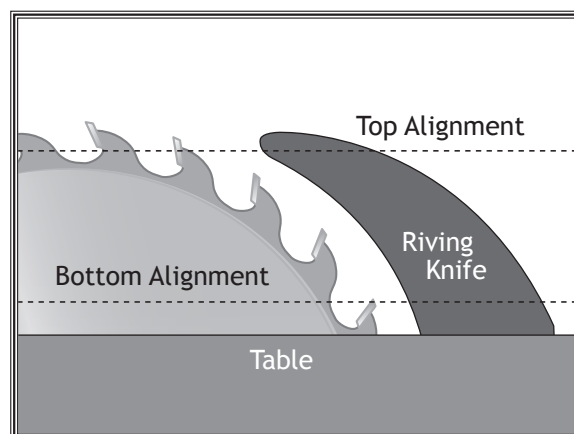
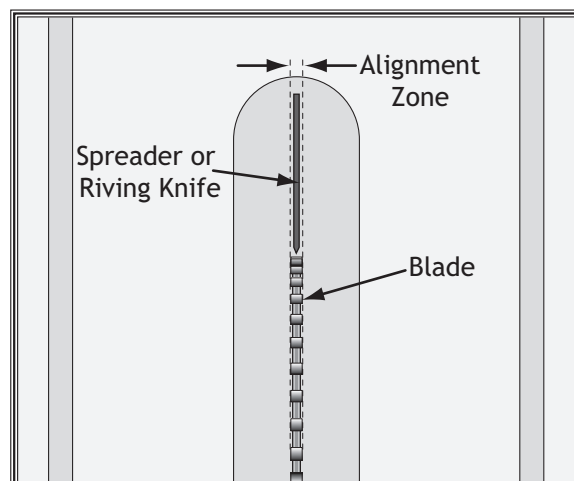

Figure 100. Checking riving knife-to-blade alignment.
Figure 101. The "Alignment Zone".
3. Place the straightedge against the side of the blade and spreader/riving knife at the top and bottom, as illustrated in **Figure 100**. The spreader/riving knife should be parallel with the blade along its length at both positions, and in the "Alignment Zone," as shown in **Figure 101**.